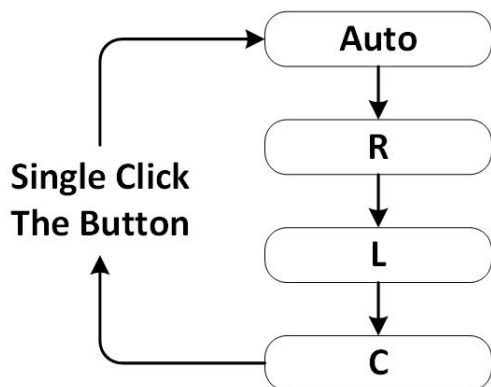

Figure 3-2: Switch Component Type by Single Clicking the Navigation Button
- Single click the navigation button to switch component type as Figure 3-2 shows.